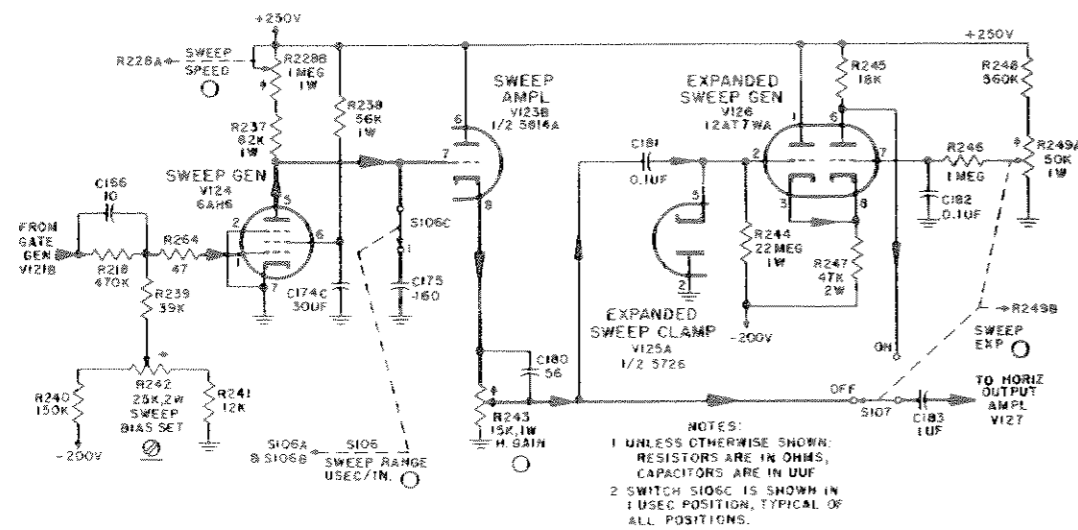

Figure 2-9. Sweep Generators, Simplified Schematic Diagram.
(2) SWEEP GENERATORS (See figure 2-9) – The sweep circuits consist of the Sweep Generator V124, type JAN6AH6; Sweep Amplifier V123B, ½ type JAN5814A; and Expanded Sweep Generator V126, type JAN12AT7WA; which is not normally a part of the circuit; but is switched in only when the SWEEP EXP control R249 is advanced from its extreme counterclockwise "OFF" position. Sweep Generator V124 is normally conducting to a degree set by the behind-the-panel adjustment R242, SWEEP BIAS SET. Since V124 is heavily conducting, the charge on the sweep range capacitor selected by S106C is held at a low value. The output of the Gate Generator V121B, a negative-going rectangular wave, is direct-coupled to the grid of V124 via R218. The sweep is started when the leading edge of this negative gate quickly cuts off conduction in V124 thus allowing the sweep range capacitor (C175) to start charging toward the +250 supply voltage, at a rate governed mainly by the resistance of the SWEEP SPEED control R228B, for the duration of the gate. The trailing edge of the gate pulse restores V124 to its conducting condition and the sweep range capacitor in the circuit is rapidly discharged through the tube. This capacitor remains discharged until another gate pulse arrives at the grid of V124 at which time the sweep cycle repeats. Section R228B of the continuously variable SWEEP SPEED control and section S106C of the SWEEP RANGE switch, are separately ganged to R228A and S106 A and B respectively in the Gate Generator; these are so arranged that the duration of the gate is approximately one tenth of the time constant of the Sweep Generator circuit. This means that only the linear 10% portion beginning the exponential charging voltage on C175 is used for the sweep. Screen voltage is furnished V124 through the series dropping resistor R238. The screen is kept at ac ground potential at all times with bypass capacitor C174. The sweep voltage thus generated is direct coupled to Sweep Amplifier V123B, a cathode follower having a very low input capacitance, which isolates the Sweep Generator circuits from the loading effects of the succeeding circuits. In addition the cathode follower serves to match the low impedance of the H GAIN control R243; thereby reducing the effect of stray shunting capacitance in the control. Capacitor C180 provides high frequency compensation to prevent the sawtooth waveforms from rounding off at the beginning and ending of the